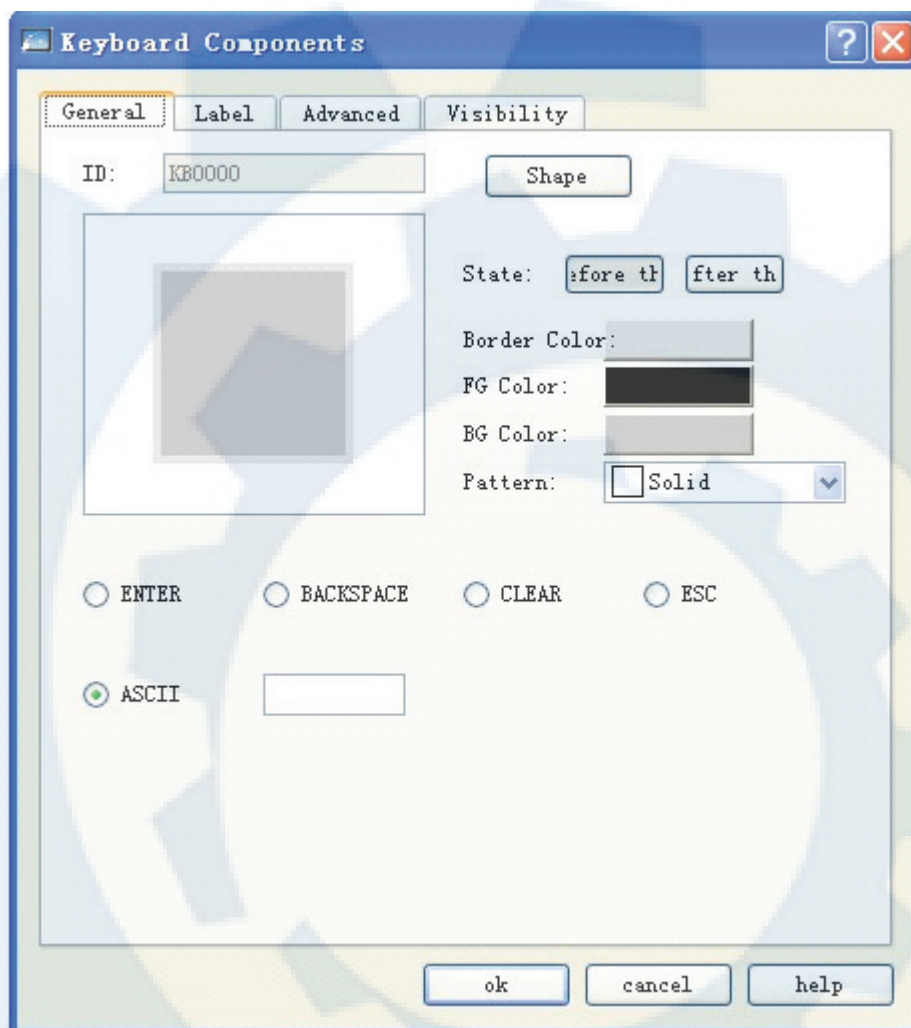

Figure 4-128: General tab of keyboard element
1. Keyboard element: This control is used for user-defined keyboard to form each button of the keyboard. The icon of this control in the toolbar is . Click this icon, and then a dialog as shown in Figure 4-128 will pop up: